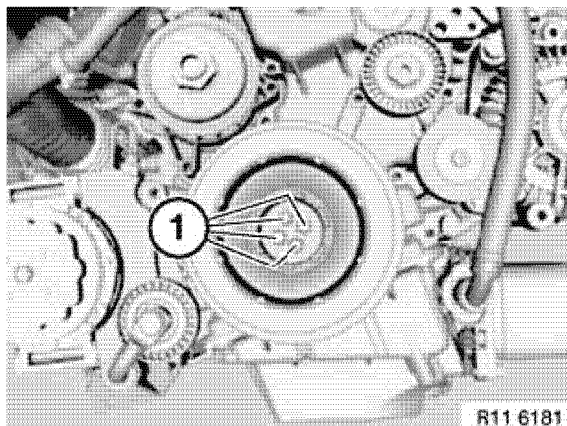

Figure 5-84
3. Remove bolts (1, **Figure 5-84**).